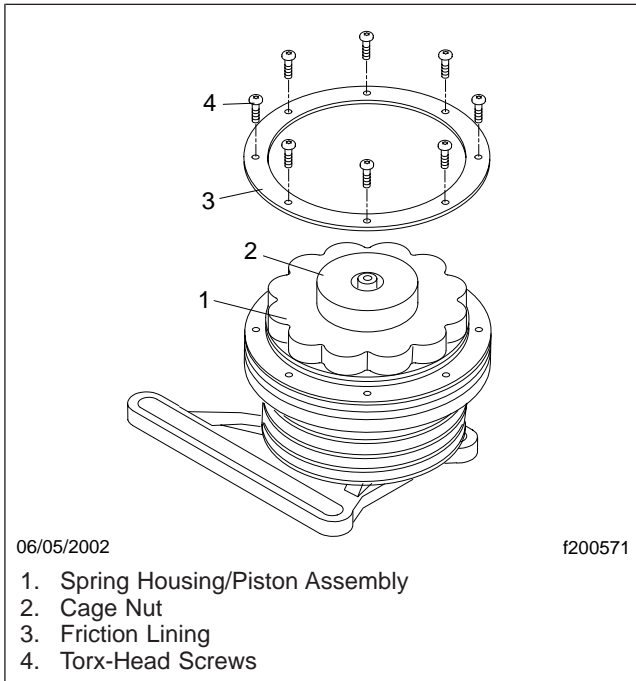

Fig. 3, Friction Lining Removal and Installation
11. Remove the friction lining. See Fig. 3.
16. Using a T27 Torx bit, install the eight Torx-head screws. See Fig. 3 . Tighten alternately 80 lbf·in (900 N·cm).